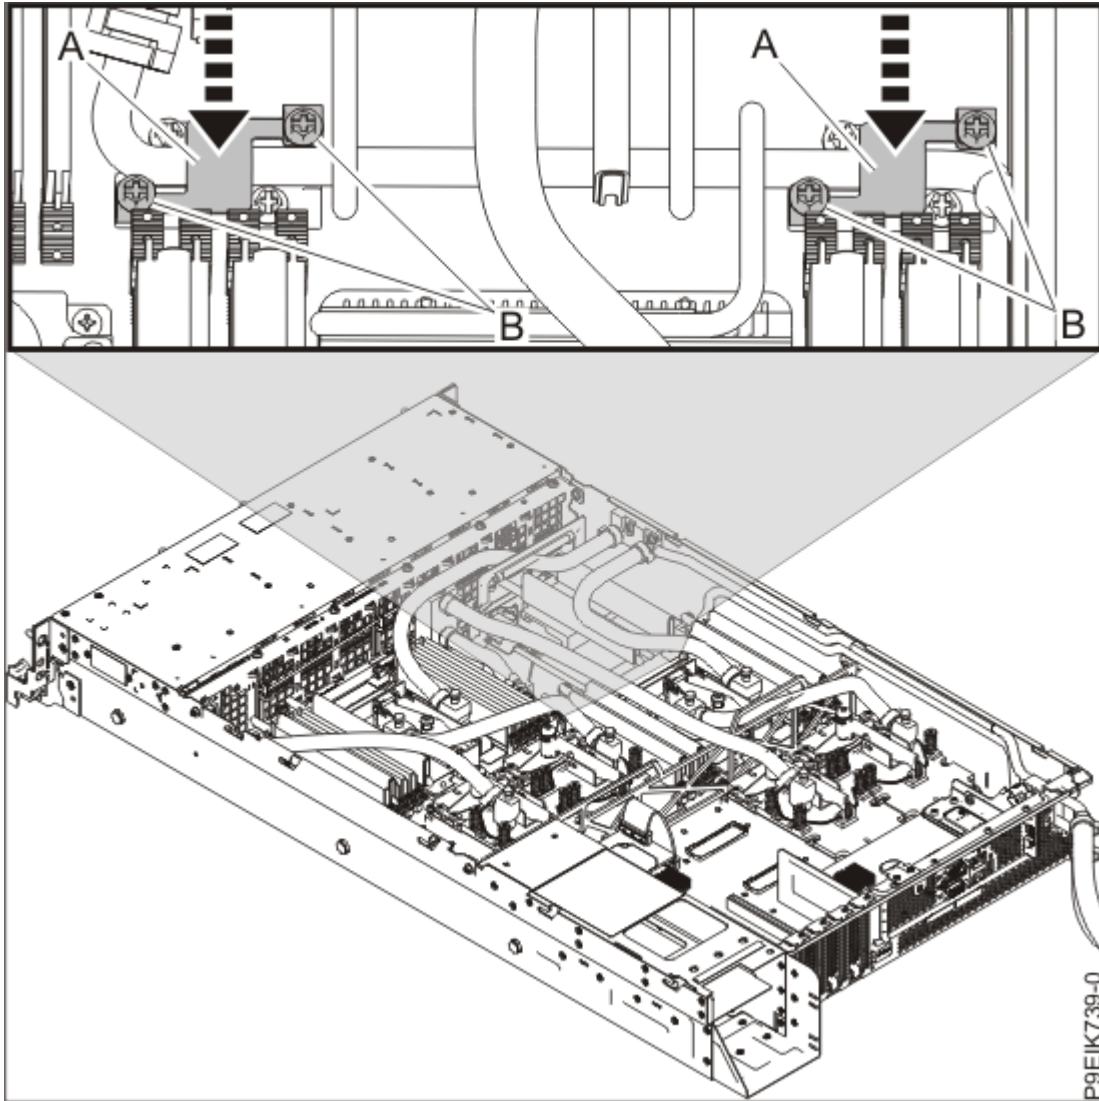

Figure 59. Replacing the middle pipe holders
12. Replace the two pipe holders **(A)** near the middle of the system as shown in Figure 59 on page 61. Place the pipes in the supports on the system backplane, place the holders over the supports and the pipes, align the screw threads at **(B)**, and tighten the four screws.